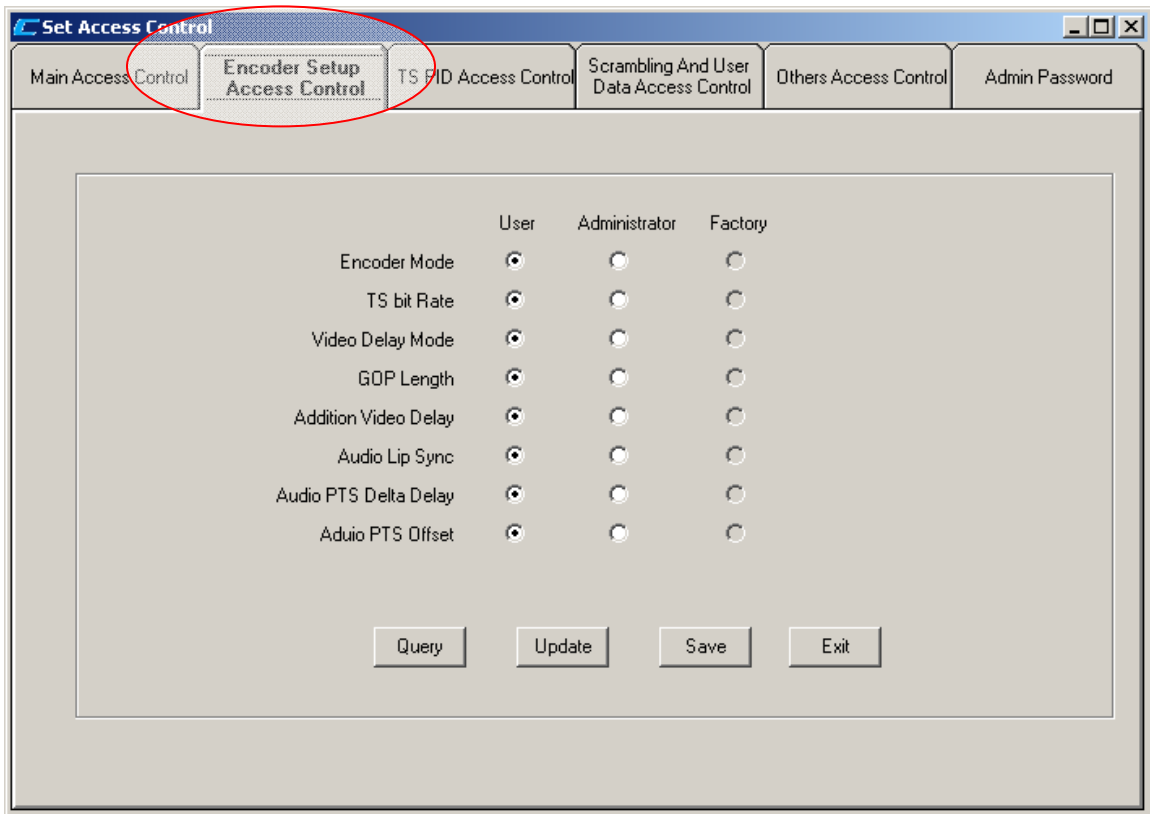

Figure 10 Encoder Access Control Window
2. The "Encoder Setup Access Control" (see figure 10). The encoder parameters such as Video delay mode and GOP length are listed here.